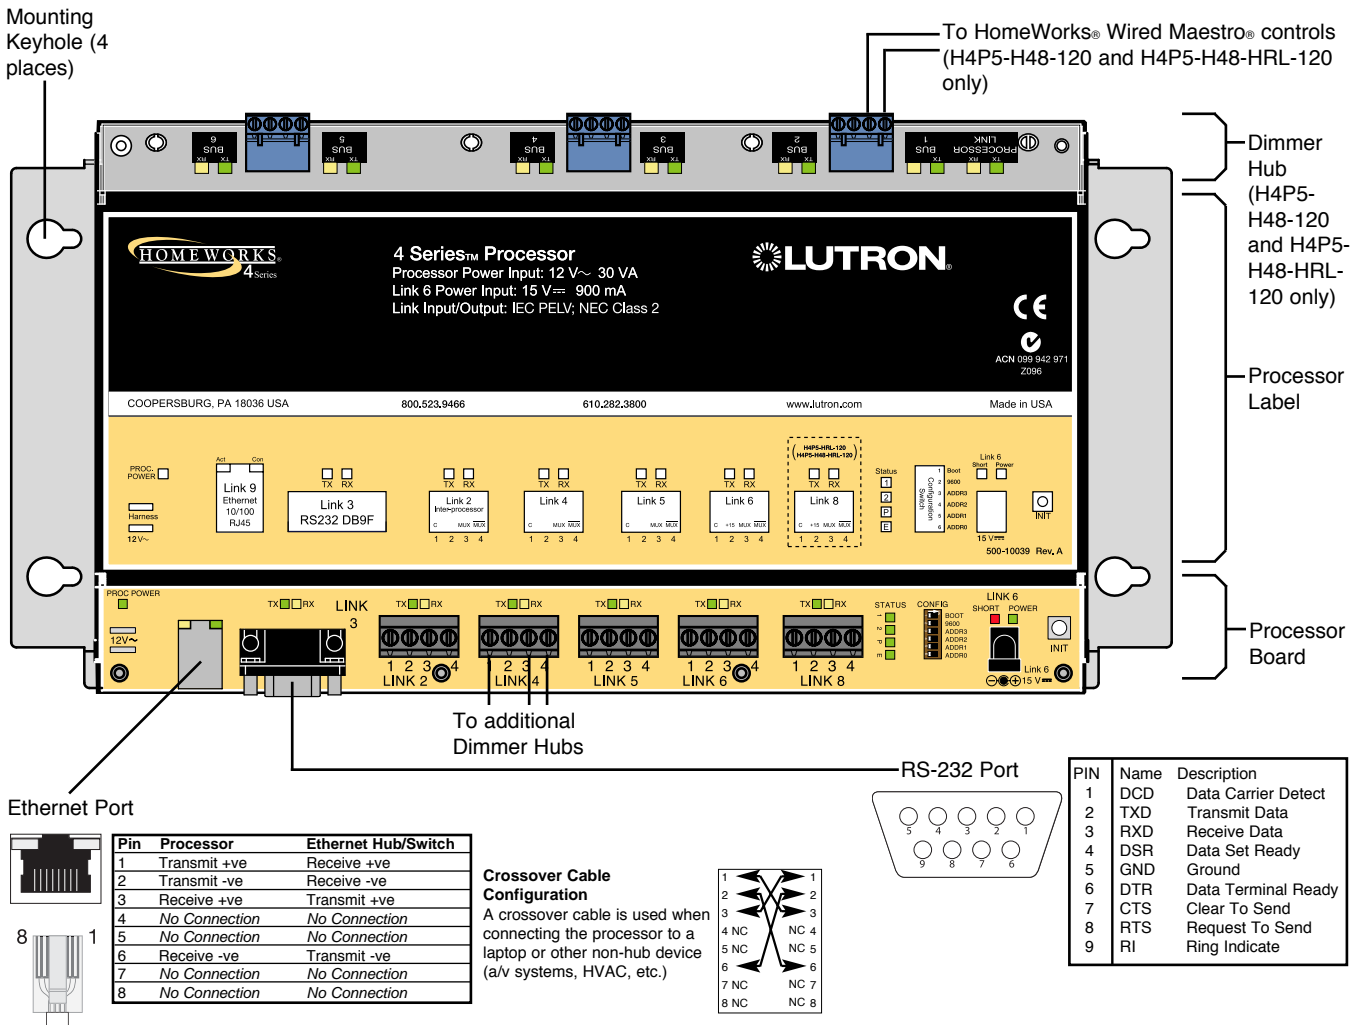

Figure 4 - 4 Series™ Processor
4. **Connect to HomeWorks lighting controls.** For the H4P5-H48-120 and H4P5-H48-HRL-120 models only, connect the communication wiring from the HomeWorks Maestro® Dimmers to the factory installed Dimmer Hub (HWI-H48-120). See Figure 4, page 3. Connect the buses according to the bus assignments that were made using the HomeWorks Illumination Software. Gray and violet connections are marked on the printed circuit board.
programming the system via direct connection to a laptop computer. If plugging into a network, a standard cable is used (see Figure 4, below). The orange LED (ACT) will illuminate when there are any Ethernet signals being transmitted or received on Link 9. The green LED (CON) will illuminate when the Link 9 is connected to a hub/switch/router or a computer. For help configuring a laptop to talk to the processor, see Help in the *HomeWorks Illumination Software*.